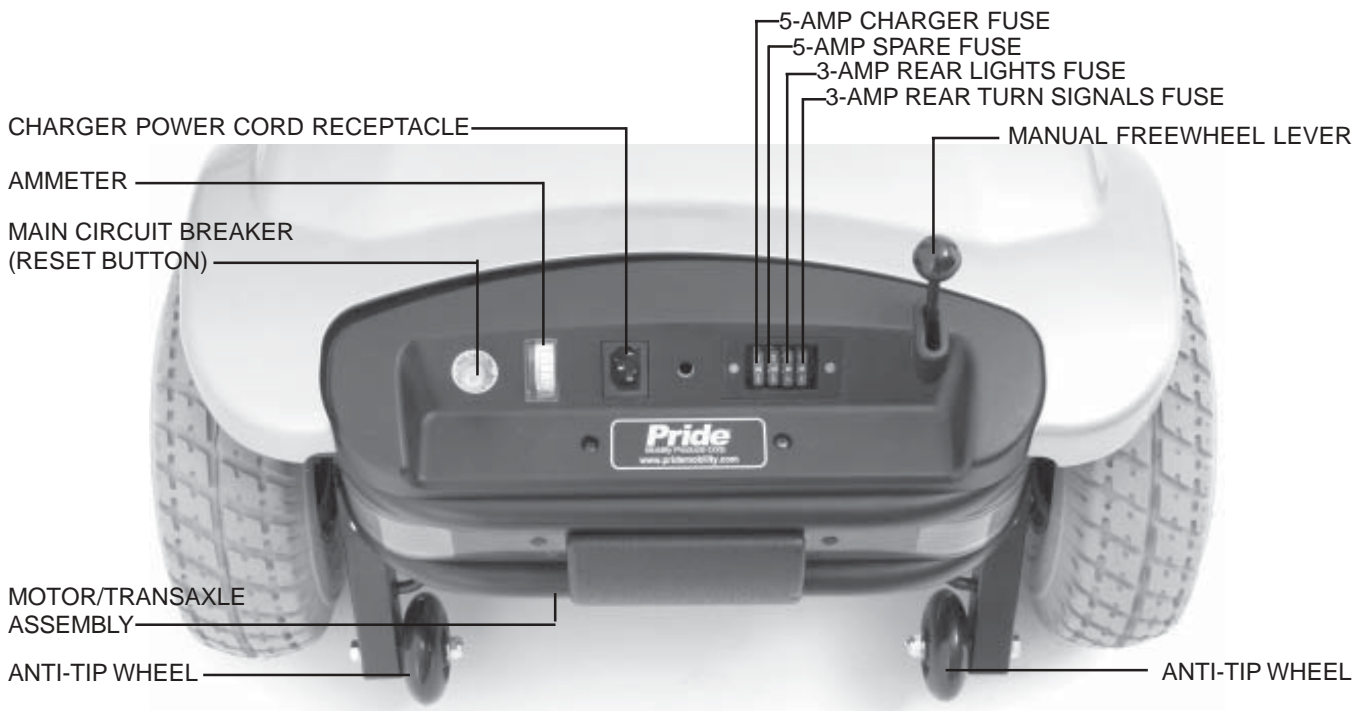

Figure 6. Rear Section
The onboard battery charger (not shown), the charger power cord receptacle, the batteries (not shown), the main circuit breaker reset button, the ammeter, the manual freewheel lever, the anti-tip wheels, and the motor/transaxle assembly are located on the rear section of your Legend. See figure 6.
When the voltage in your Legend's batteries becomes low or the scooter is heavily strained because of excessive loads or steep inclines, the main circuit breaker may trip to protect the motor and electronics from damage. See figure 6.
- The manual freewheel lever is located on the end of the motor/transaxle assembly at the right rear of the Legend. See figure 6.